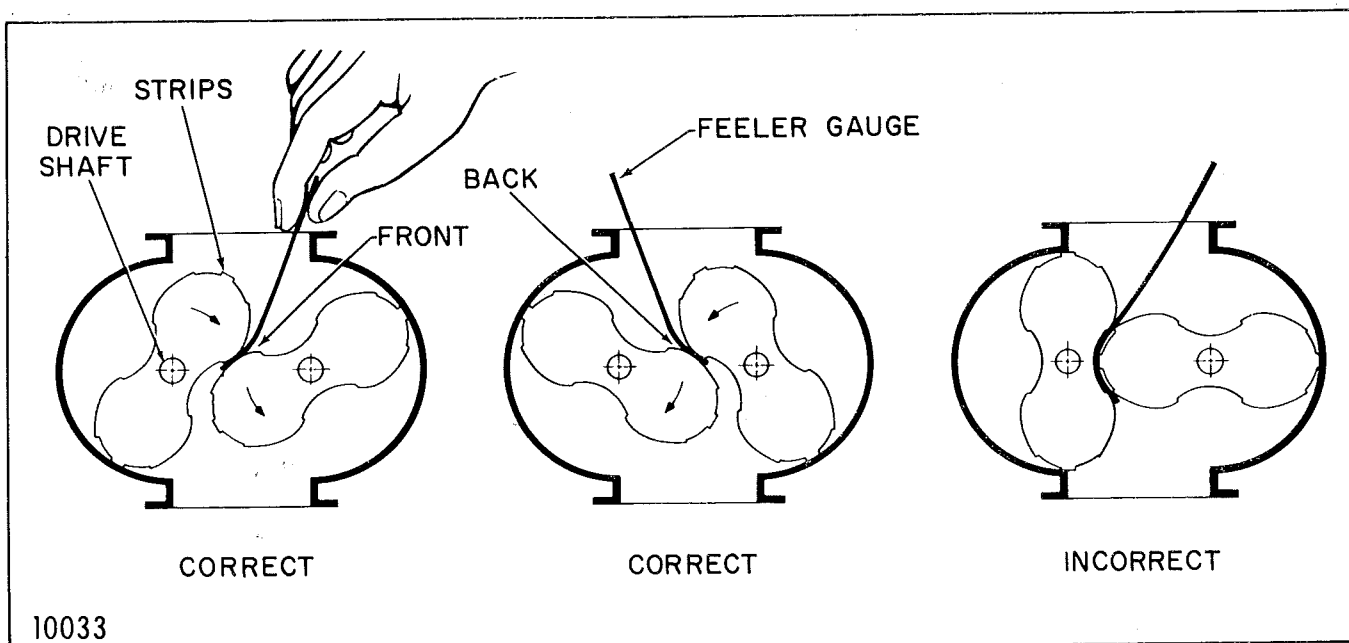

Figure 5 Identification of Front and Back Impeller Clearances, and Method of Using Feeler Gauge
8. Remove the impeller blocking feelers. Rotate the impellers to make sure they do not bump, then measure front and back lobe clearances with feelers when impellers are in positions shown in Figure 5. These two clearances should be equal when the impellers are properly "timed" and should be within the theoretical limit given in Table 5.